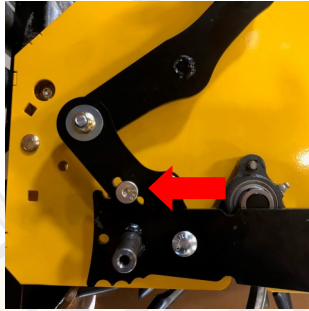

Figure 7
- Grease the 4 bearings on the tine shaft every 50 hours as shown in Figure 7.
2. Remove the Allen head shoulder bolt on both sides of the unit as shown in figure 7.